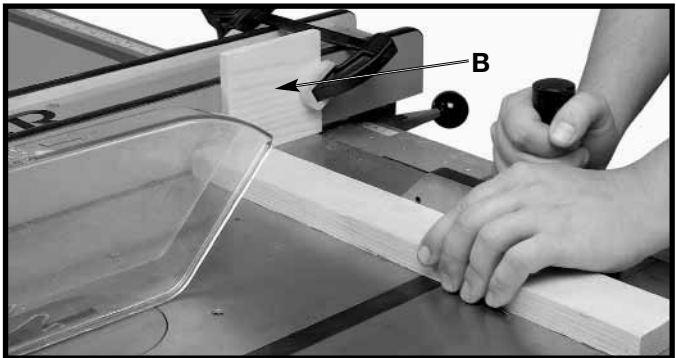

Fig. 44
When cross-cutting a number of pieces to the same length, a **BLOCK OF WOOD (B)**, can be clamped to the fence and used as a cut-off gage as shown in Fig. 44. It is important that this block of wood always be positioned in front of the saw blade as shown. Once the cut-off length is determined, secure the fence and use the miter gage to feed the work into the cut. This block of wood allows the cut-off piece to move freely along the table surface without binding between the fence and the saw blade, thereby lessening the possibility of kickback and injury to the operator.
⚠ CAUTION WHEN USING THE BLOCK (B) FIG. 44, AS A CUT-OFF GAGE, IT IS VERY IMPORTANT THAT THE REAR END OF THE BLOCK BE POSITIONED SO THE WORK PIECE IS CLEAR OF THE BLOCK BEFORE IT ENTERS THE BLADE.